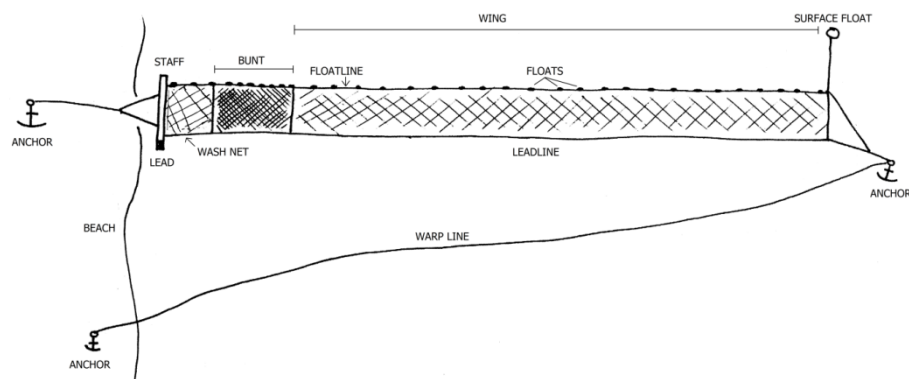

Figure 3. Beach seine (courtesy of M. Tork, U.S. National Marine Fisheries Service).
*Beach Seine:* A vertical hanging net set from, and anchored to, the beach (see FIGURE 3). Sometimes incorrectly referred to as a haul seine.